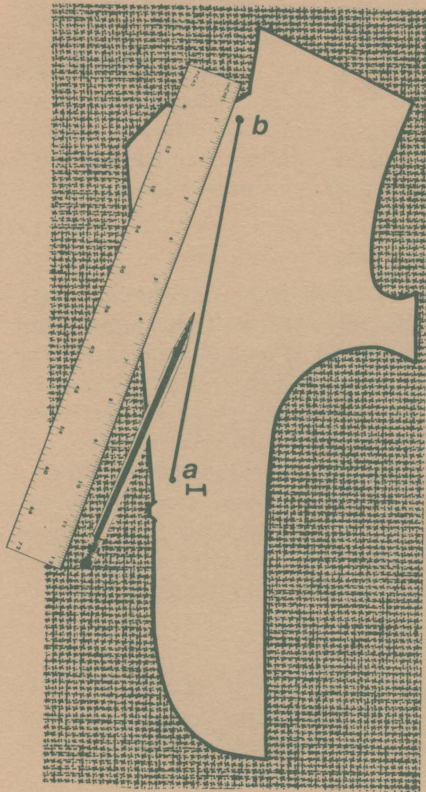

Figure 5. Mark the roll line on the interfacing
- Make another mark on the front seam line $\frac{1}{2}$ inch (1.3 cm) above the buttonhole mark (Figure 5).
- Position one end of a ruler $\frac{3}{4}$ inch (2 cm) out from the point where the neck and shoulder seam lines meet (Figure 5).